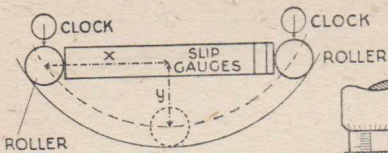

Fig. 17
If the faces are not flat or the job cannot be held down, position the job on the surface plate as shown in fig. 17. Level up the two rollers, after having inserted the appropriate amount of slips and ascertain in this way the chordal dimension (X). Measure with the height gauge the horizontal position of the centre line between the two rollers. To find the dimension (y), one roller of the same size has to be dropped into the lowest spot of the bore (see dotted lines) and the position of the centre of the ball may be measured with the height gauge. The difference between the two height gauge readings is the requested height (y).